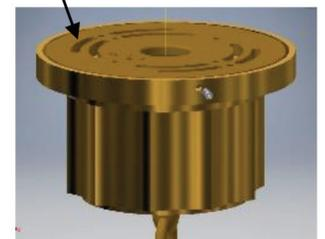

Fig.2
2. Take the canopy (A) and unscrew the sides to access the ceiling plate (B). Use the ceiling plates as a guide to locating the anchors on the ceiling. (Fig.2)